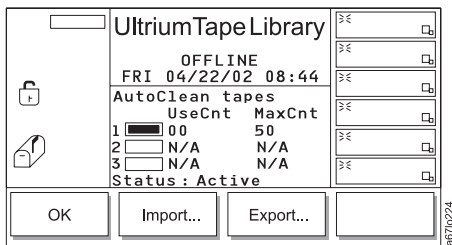

Figure 4-85. AutoClean Dialog
3. Press the button below the **AutoClean** softkey. The AutoClean Dialog displays (see Figure 4-85) with the following information about cleaning cartridges and cleaning slots in the library.